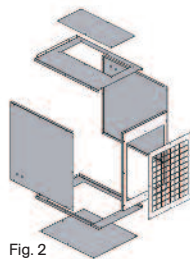

Fig. 2
- mixing chamber kit (fig. 2);